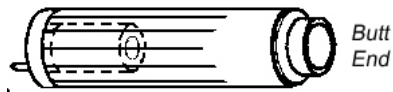
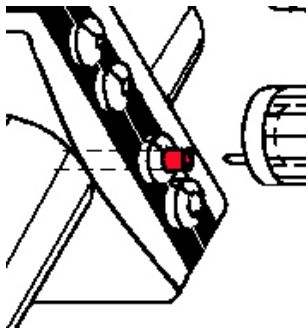

Figure 2
Figure 3
To create a proper flange it is necessary to determine the length of tubing that extends from the "Cruciform Tubing Holder" as in step 2 above. To do so use the side of the "Drill Holder" (Figure 2) opposite from where the Flanging Drills (1) are inserted. The tubing should be pushed back into the Cruciform Holder with the butt end of the Drill Holder until the Drill Holder is flush against the Cruciform Holder. Tighten down the knob on the top of the Cruciform Tubing Holder so that the tubing is held snugly. This is a very important step to insure that the flange is created properly. See Figure 3 (Red Tubing) below.
As shown in Figure 3 below, with the proper amount of tubing extending out of the Cruciform Tubing Holder place the Drill Bit into the id of the tubing and rotate (clockwise or counter clockwise). While turning the Drill Holder keep it perpendicular to the Cruciform Tubing Holder. The Drill Holder will make larger rotations but the drill bit will not.